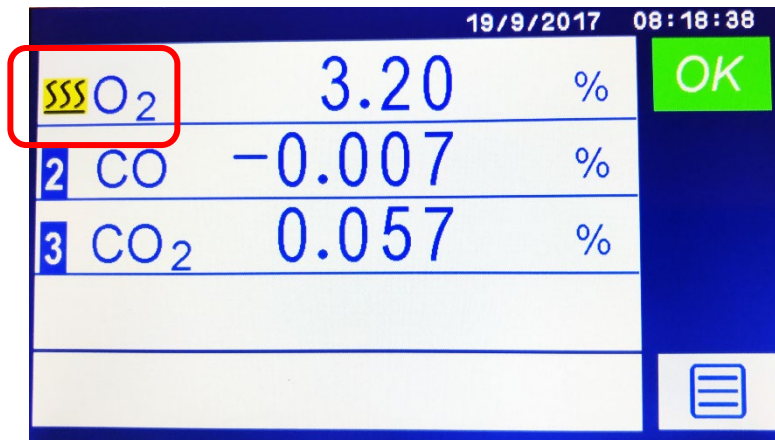

Figure 3-10: Home screen for a 3-transducer analyzer showing the O₂ warming up
- When the analyzer is first switched on, the screen displays a software loading progress bar, followed by the Home screen and the warmup signal **SSS** appears in front of any transducer which operates under isothermal conditions (Figure 3-10).
Hint: Figure 3-10 shows the unit in Warm Up mode, indicated by the three wavy lines shown in the upper left corner encircled by the red box.